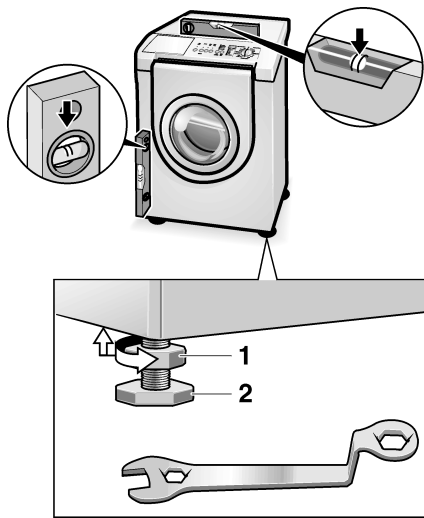

Figure 17
- Loosen the lock nut (see **Figure 17, item 1**) by turning it clockwise. Use the wrench provided (or a 5/8" – 16mm open end wrench). When you turn the lock nut, the foot (see **Figure 17, item 2**) it is locked against will turn with it. This will extend the height of the foot.